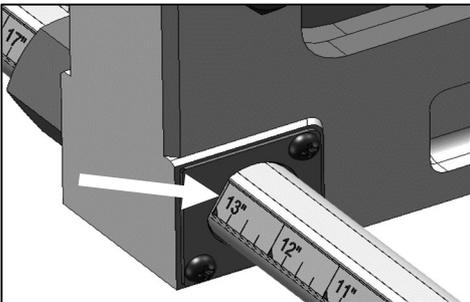

Figure 4
4. Adjust guide bars for stock stop position. The scale indicates length from the cutting blade to the stock stop. Measurement is read at the angled edge of the red plate. See Figure 4.